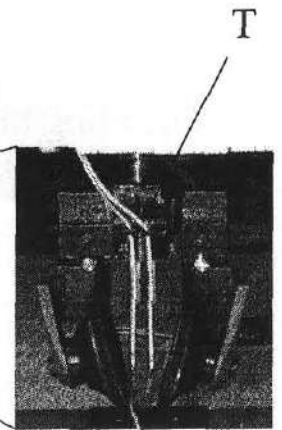

Fig.4
- Through the right hole in needle clamp **T**, then downward through needle hole and pull about over 10cm, as show in Fig.4 ◦